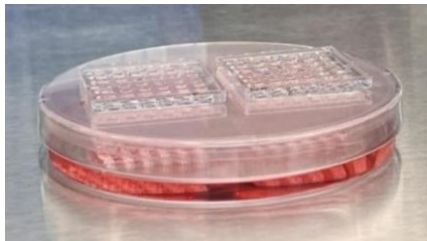

**Figure 3.** Stamping of the 36PillarPlate on the LoadingPlate to load cells suspended in alginate on pillars.
- Stamp the 36PillarPlate on the LoadingPlate and press gently to load the cell-alginate mixture evenly on the entire pillar plate (**Fig. 3**). Repeat this cell loading step for another pillar plate.